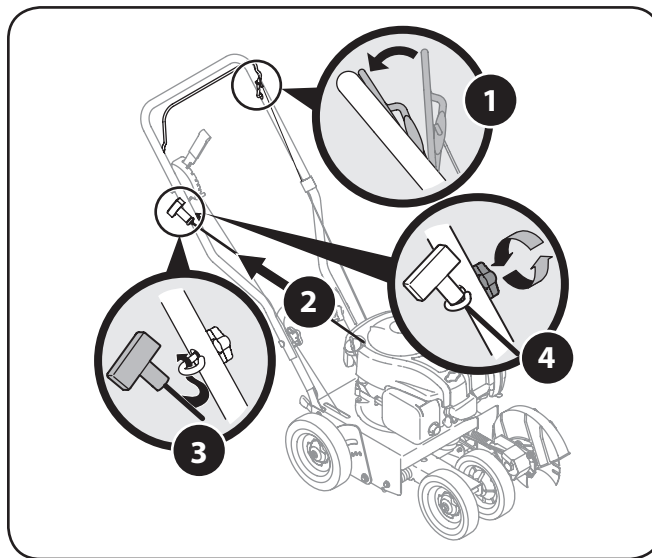

Figure 3-5
1. Stand behind the edger and hold the blade control against the upper handle. See Figure 3-5.
NOTE: The starter rope will not pull out of the engine unless the blade control (refer to Figure 3-5) is depressed against the upper handle.